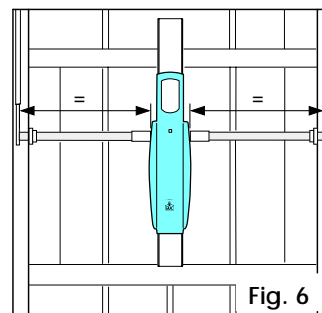
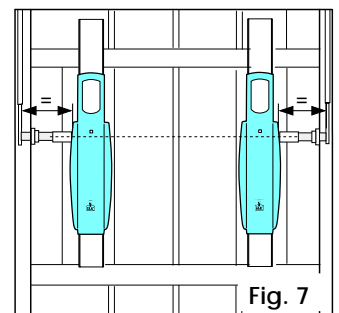

Fig. 6
Fig. 7
In accordance with the measurements given in Table 1, install either a single operator (550 I) at the centre of the door as shown in Fig. 6 or two operators (one 550 I and one 550 Slave) at the sides of the door as shown in Fig. 7.
5) Fit the transmission shafts firmly onto the drive shaft and cut them to size as shown in Figs. 6 and 7.